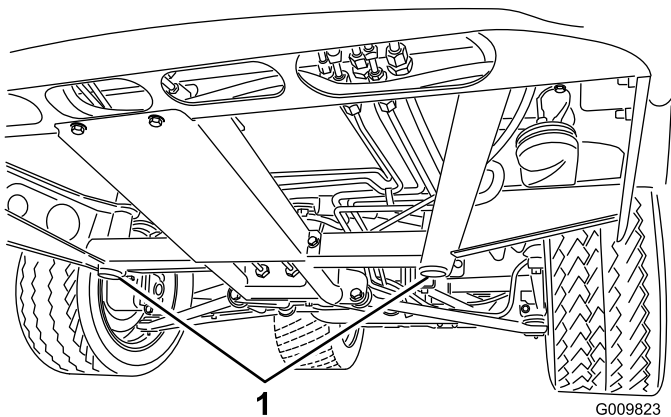
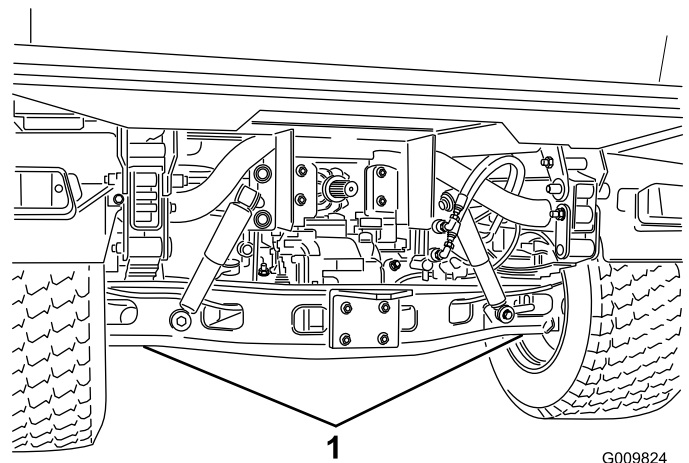

Figure 27
Figure 28
- The jacking point at the front of the vehicle is under the front center frame support (Figure 27) and at the rear it is under the axle (Figure 28).